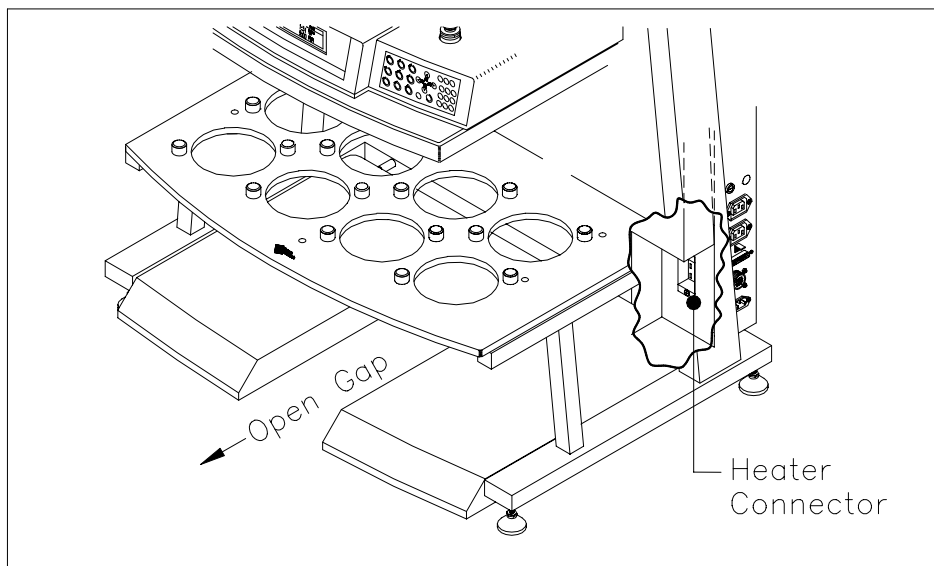

Figure 4-9: Positioning the Bath Support
1. Position the bath support on the lab bench so that it is touching the back of the SR8-Plus frame and is centered left to right. The open gap should be towards the front. (see Figure 4-9)
3. Plug the heater cable into the connector labeled “Heater” on the right-hand side of the SR8-Plus Controller. (see Figure 4-9)